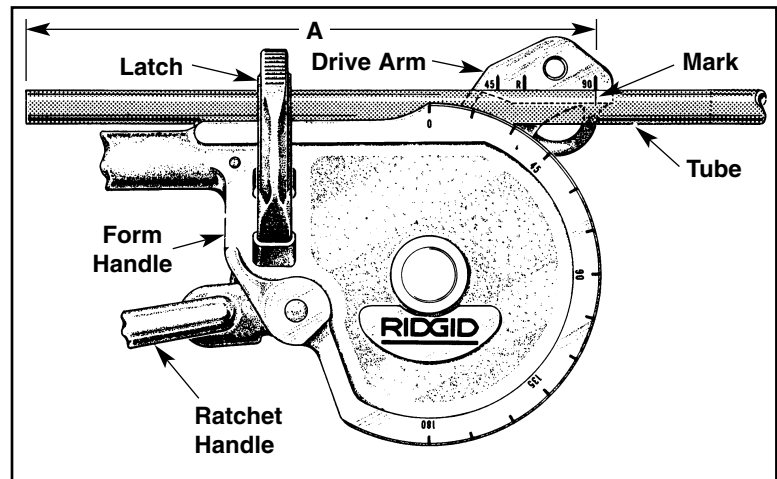
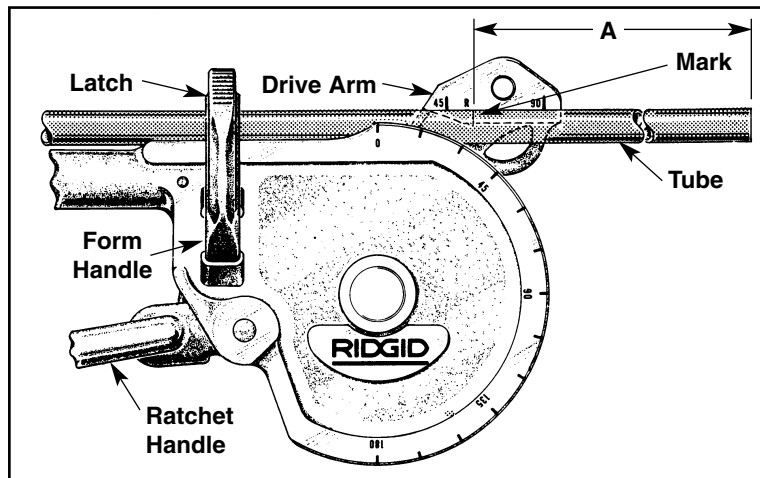

Figure 4a
Figure 4b
6. Position tube in bender. (Figure 4a) If the end from which you measured is in the Form Handle, the measured mark should be directly under the 90° mark on the Drive Arm. (Figure 4a) If, however, the end from which you measured is to the right (Not in the Form Handle), set the mark on the tube directly under the "R" on the Drive Arm. (Figure 4b)